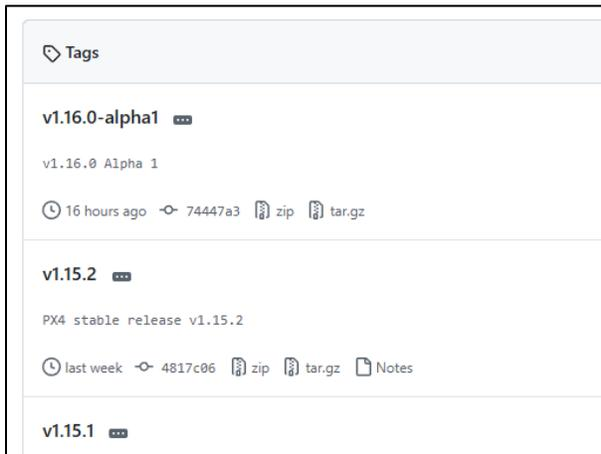

Figure 153 Example of PX4-Autopilot Tags
4. Select the correct version of the firmware that you want to use. One way to choose is by navigating to <https://github.com/PX4/PX4-Autopilot/tags> and looking for the most recent stable release, as shown in **Figure 153**. In these instructions, we will use v1.15.2. Checkout the corresponding branch using the following commands: